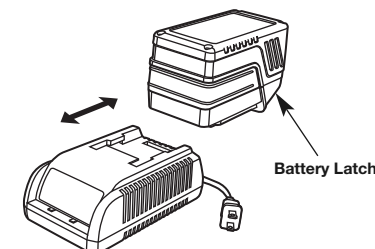

Fig. 8
3. Insert the battery into the charger (Fig. 8).